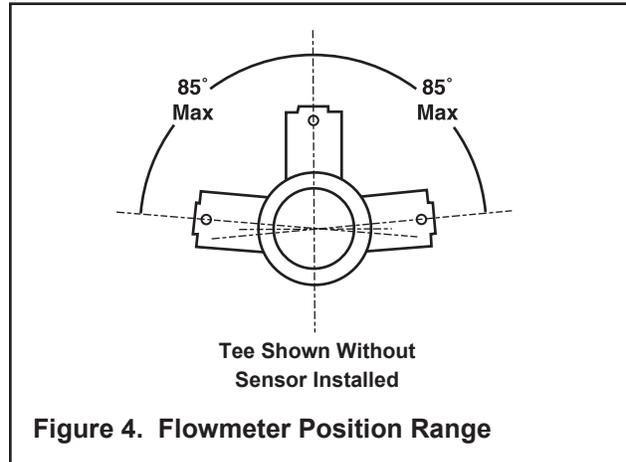

Figure 4. Flowmeter Position Range
1. The flowmeter tees must be installed in the apparatus piping. The FoamPro paddlewheel style flowmeter tees are specially designed tees that make inspection and maintenance of the flow sensor easy. The threads of the tees are NPT. In horizontal runs, the tees should be mounted as close to upright as possible within the range shown in Figure 4. The flowmeters may also be mounted vertically.